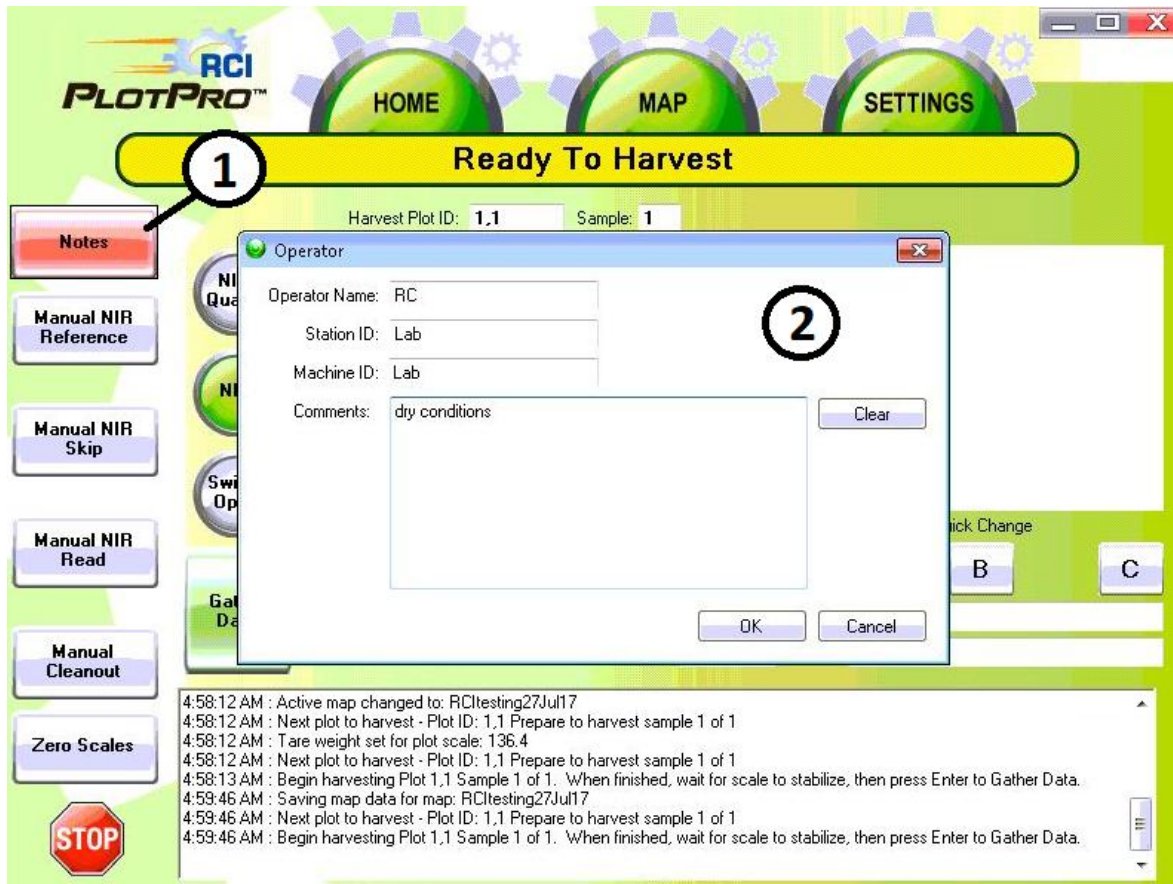

Figure 61. Operator Information Entering (not required)
- c. See Figure 61. Press OK when complete.